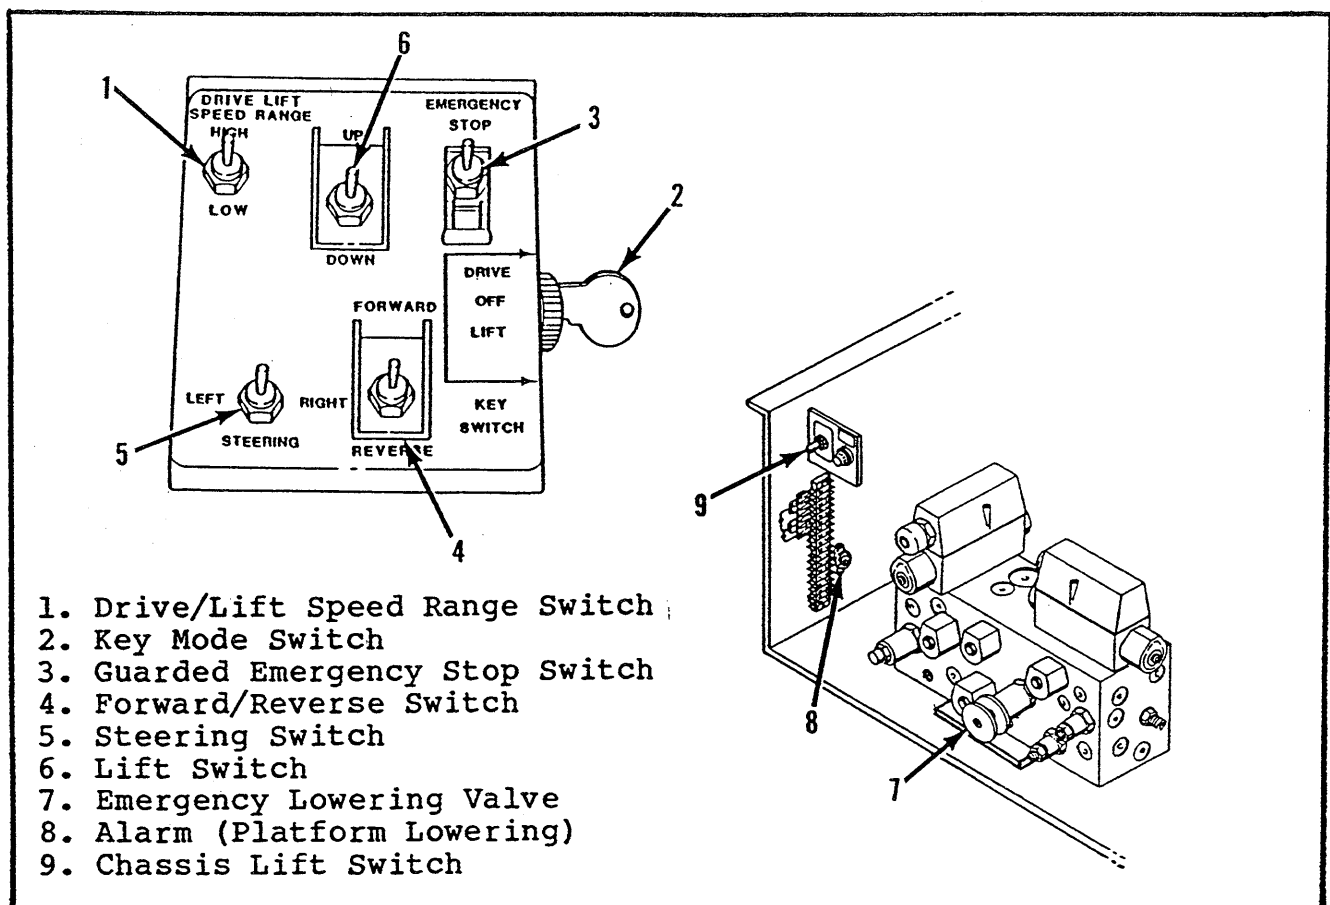

Figure 4-1. Controls and Indicators
**4-6. CONTROLS AND INDICATORS.** The controls and indicators for operation of the XL-C Series Work Platform are shown in Figure 4-1. The name and function of each control and indicator are listed in Table 4-1. The index numbers in the figure correspond to the index numbers in the table. The operator should know the location of each control and indicator and have a thorough knowledge of the function and operation of each before attempting to operate the unit.
#### 4-10. TRAVEL WITH PLATFORM LOWERED (Figure 4-1).
**4-12. TRAVEL WITH PLATFORM ELEVATED (Figure 4-1).**